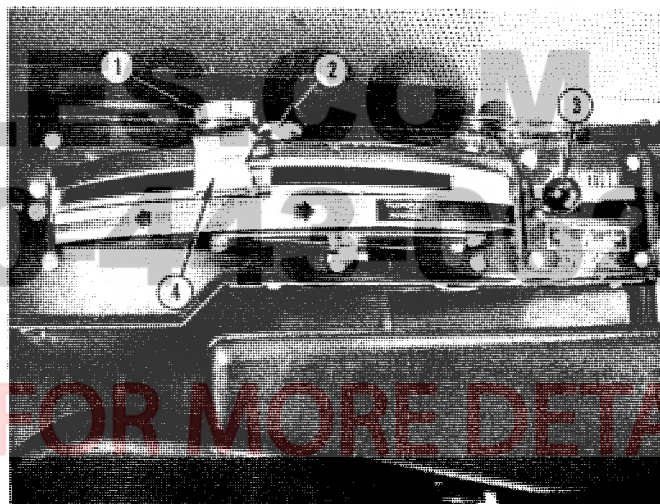

Fig. 35 — Hydraulic Control Quadrant
4. Align adjustable locator, No. 1, Fig. 35, with control lever, No. 4, as this will be helpful when returning control lever to original position.